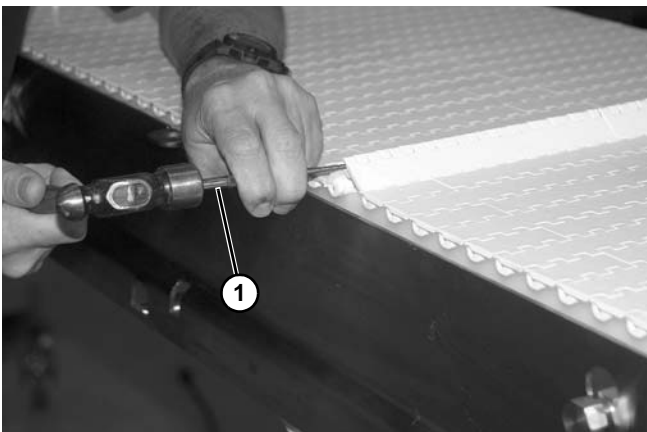

Figure 25
10. Lightly tap the head of the rod with a hammer and punch (Figure 25, item 1) until it snaps into position.